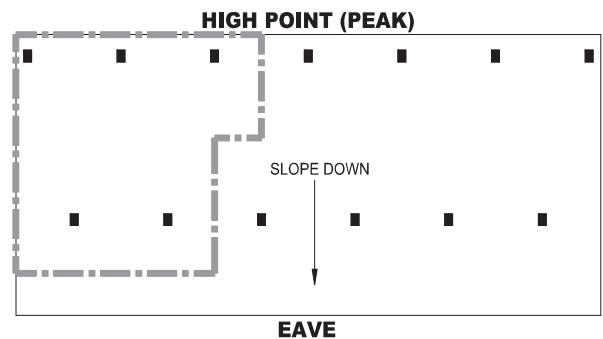

FIGURE 21B
- Calculation #1: Calculate the most hydraulically demanding 5 contiguous sprinklers consisting of 3 at the high point and 2 on the adjacent slope. See FIGURE 21B.